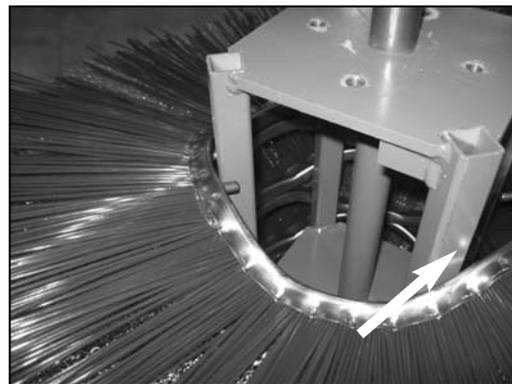

Figure 30
8. Slide the first, polypropylene section onto the core (Figure 30). Be sure drive pins on brush wafer (Figures 30 and 31) straddle a tube.